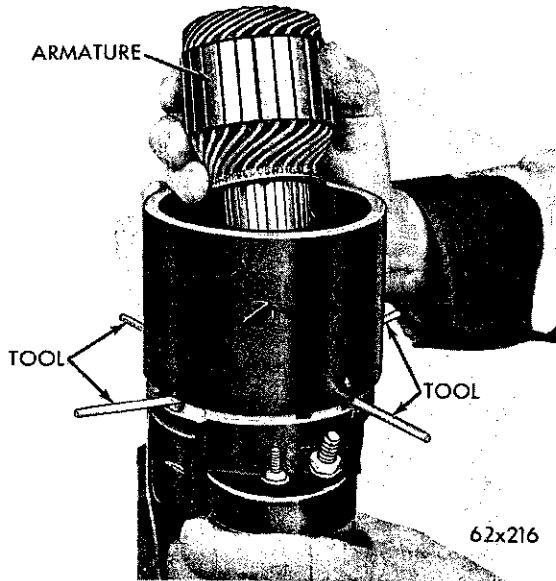

Fig. 25—Installing the Starter Armature
(23) Install the armature thrust washer on the gear housing (Fig. 1) and enter the armature into the field frame and gear housing (Fig. 25); carefully engaging the splines of the shaft with the reduction gear.